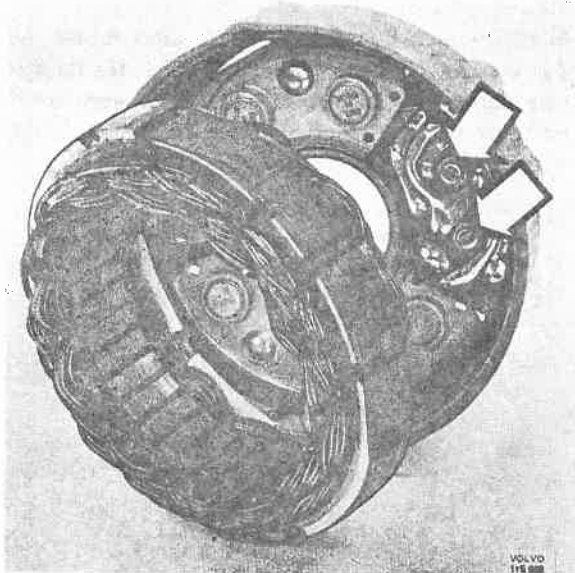

Fig. 32-13. Removing the screws for the RC-circuits
- Remove the nuts and washers securing the negative diode retainer. Lift up the stator so far that the two screws securing the RC-circuits can be removed, Fig. 32-13. Then remove the stator, diode holders (with two plastic bushings) and the RC-circuits from the slip ring bearing shield.